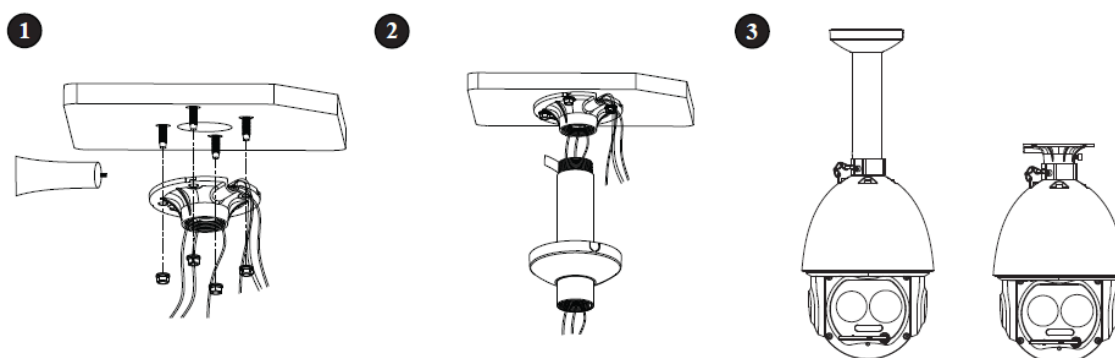

Figure 3-4
1. Split the connection tray and the connection pole, dig holes on the mounting surface, insert expansion bolts, fix it with nut and paste glass cement on it to make it sealed and waterproof, as it is shown in Figure 3-4 ①.
2. Pull the cable through the connection pole, twine the Teflon tape around the connection pole and fix it on the connection tray, as it is shown in Figure 3-4 ②.
3. Twist the quick mounting connector into the wall-mounted bracket, use stainless screws to fix, buckle the safety hook, connect cable and use insulated tape to make it waterproof, which is shown in Figure 3-4 ③.
4. Check if the speed dome is firmly fixed and then device installation is completed, which is shown in Figure 3-4 ③.